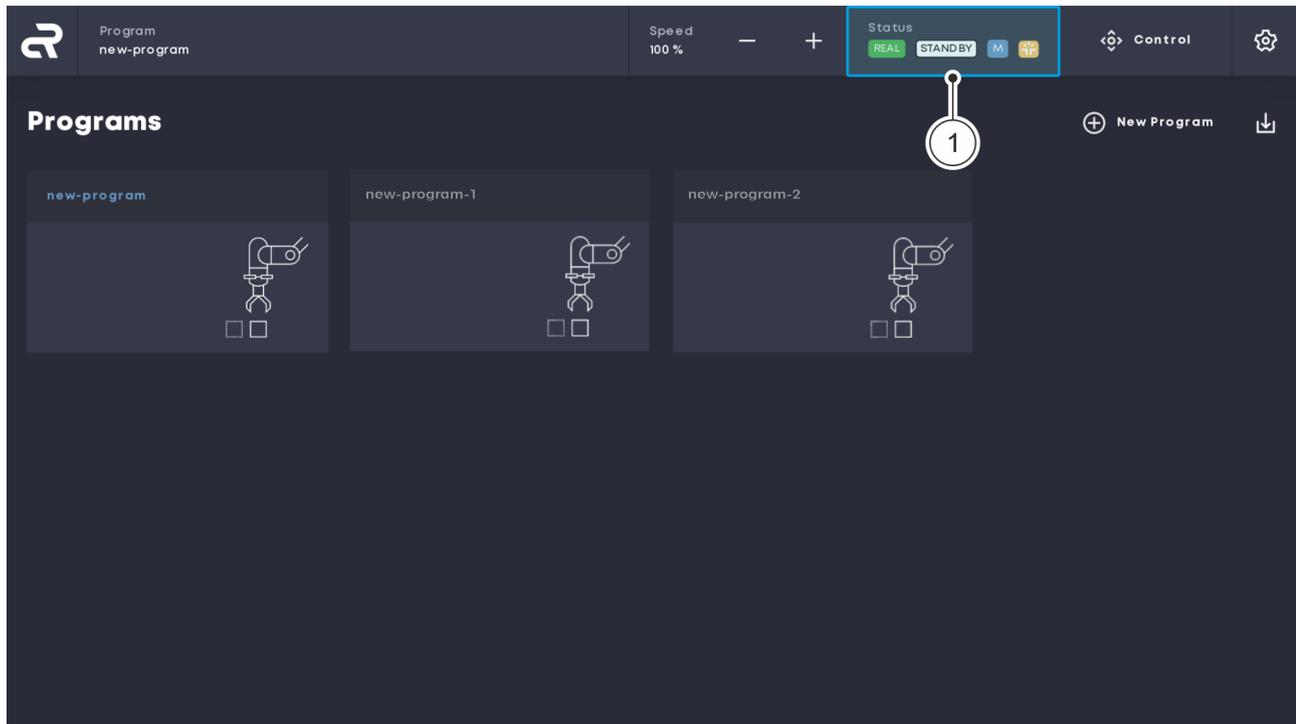

Fig. 7 Main screen
01. On the main screen, click the 'Status' button Fig. 7/①.